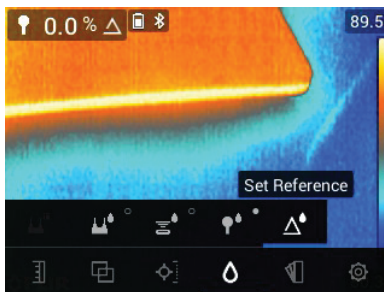

Figure 7.13 Selecting the 'Set Reference' mode.
- Select the 'Set Reference' mode from the menu (*Moisture mode/Set Reference* ); see **Figure 7-13** above. This mode is only available for pinless measurements, including the optional MR12 Ball Moisture probe.